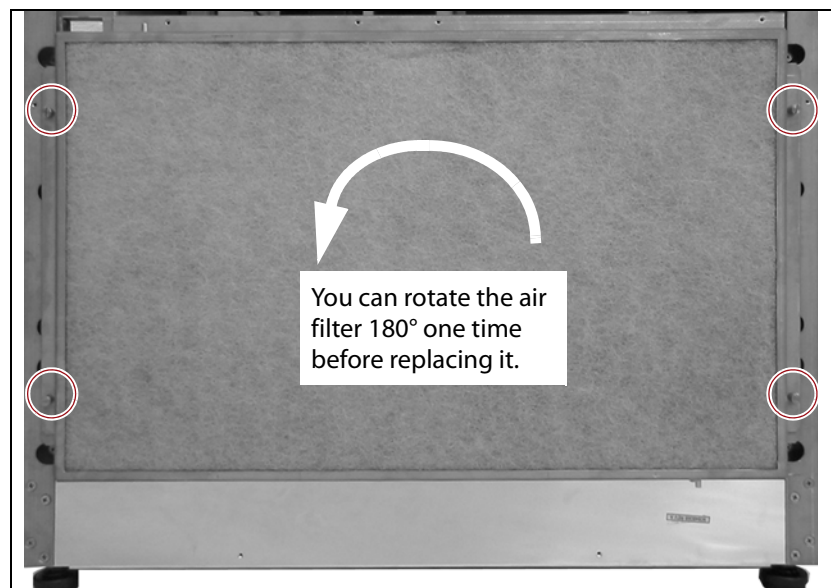

Figure 297 Loosen the four captive screws that secure the air filter to the frame.
3. Use a flat head screwdriver to loosen the four captive screws on the air filter (circled in Figure 297).
- If the filter was not previously rotated, rotate it 180°, top to bottom (see Figure 297 on page 462).
6. Use a flat head screwdriver to tighten the four captive screws to secure the filter to the frame (see Figure 297 on page 462).